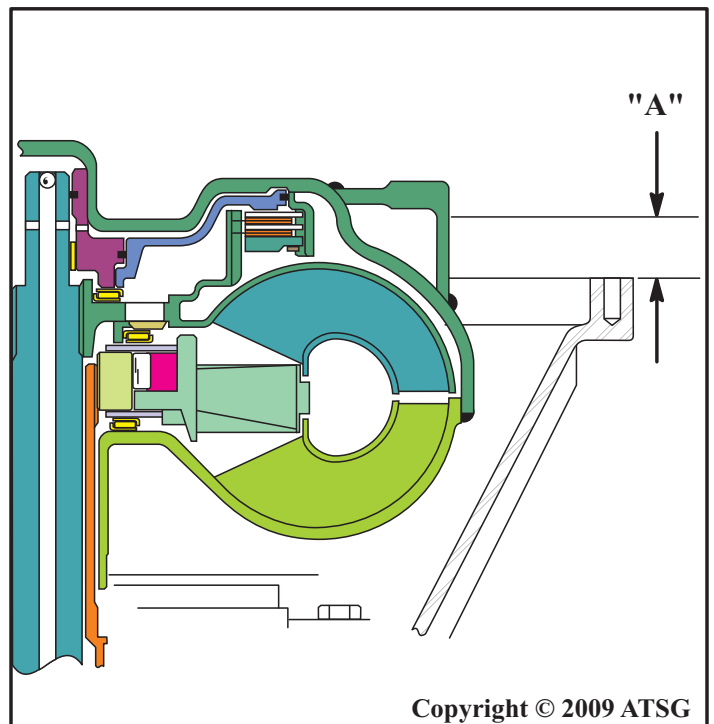

Figure 199
51. Measure distance "A" from the torque converter pad to the face of converter housing, as shown in Figure 199.